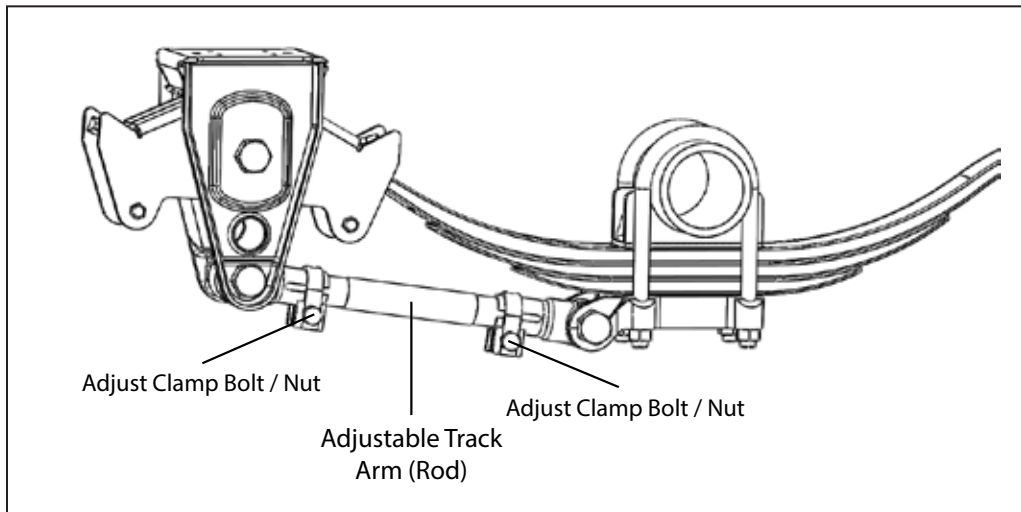

Figure 1
Release the clamps at each end of the adjustable rod (Figure 1). Align front axle with the king pin and adjust each axle thereafter parallel to the front axle. Be sure to secure the clamps on the adjustable track arm (rod) after alignment (Figure 1).
Alignment Procedure (Figure 1)
1. Loosen the adjustable track rod clamp bolts (Figure 1) and turn the center rod to adjust as necessary (see torque min/max table).
2. After adjusting, tighten the adjustable track rod clamp nuts (Figure 1) to proper torque (see torque min/max table) and recheck measurements.